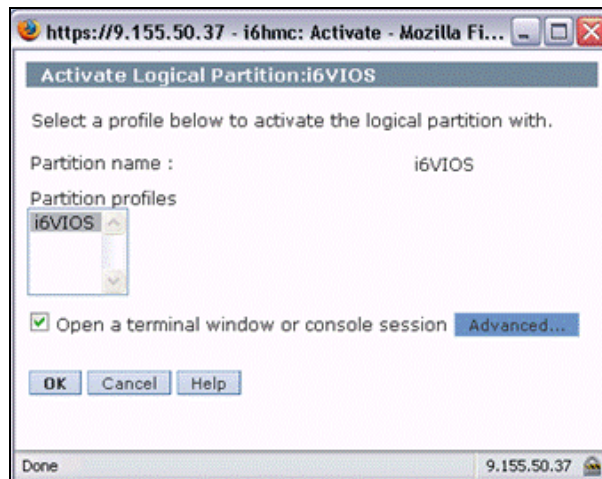

Figure 3-3 Activate LPAR window
3. In the Activate Logical Partition window (Figure 3-3):